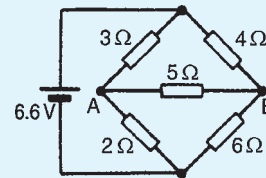

Figure 13.52
5. For the bridge network shown in Fig. 13.52, find the current in the $5\ \Omega$ resistor, and its direction, by using Thévenin's theorem. [0.153 A from B to A]